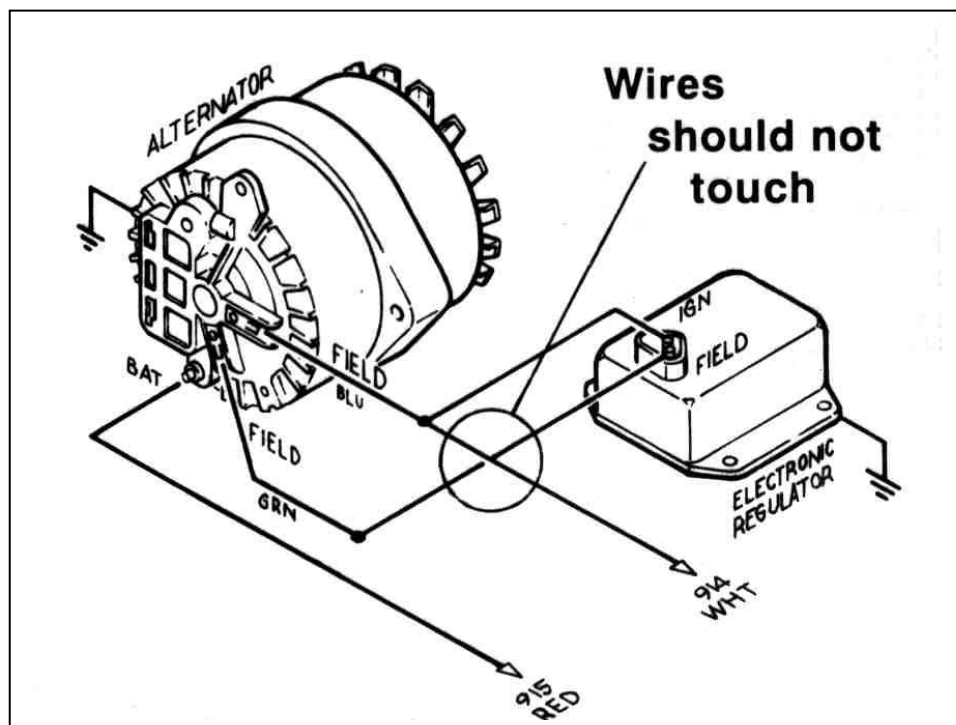

Figure 9-1A Mopar Alternator
9.1.2 Connect ENGINE SECTION wire #914 (wht) to the Alternator Field (F) terminal as shown in **Figure 9-1A**. Connect ENGINE SECTION wire #915 (red) to the Alternator Output lug (Bat).